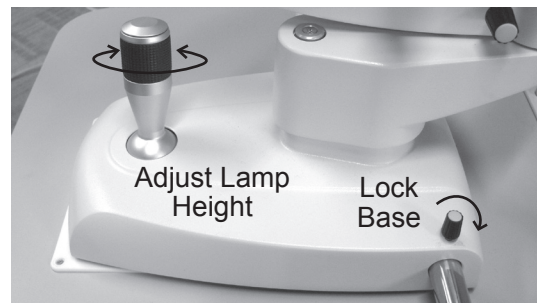

Figure IN-3 Adjust Height
7. Microscope elevation is adjusted by rotating the Joystick and observing the slit image through the Microscope Assembly until the slit is centered on the patient's cornea. Refer to Figure IN-3.
10. The horizontal motion of the base can be locked by tightening the Base Locking Screw. Refer to Figure IN-3.